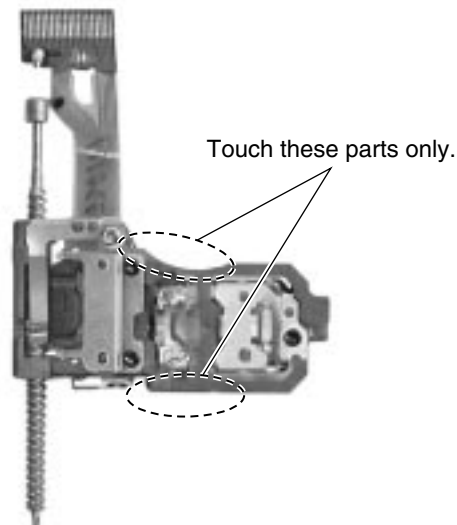

Fig.13
**ATTENTION:** When handling the Pickup unit, touch the parts marked in Fig.13 only.
**ATTENTION:** When handling the pickup unit, touch the parts marked in Fig.13 only.